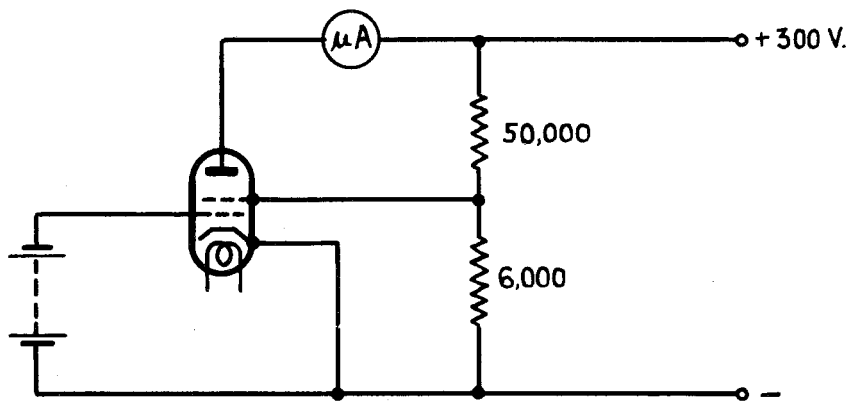

FIG. 2.
- For test (f), the anode and screen grid voltages shall be derived from the network as in Fig.2, page 3.